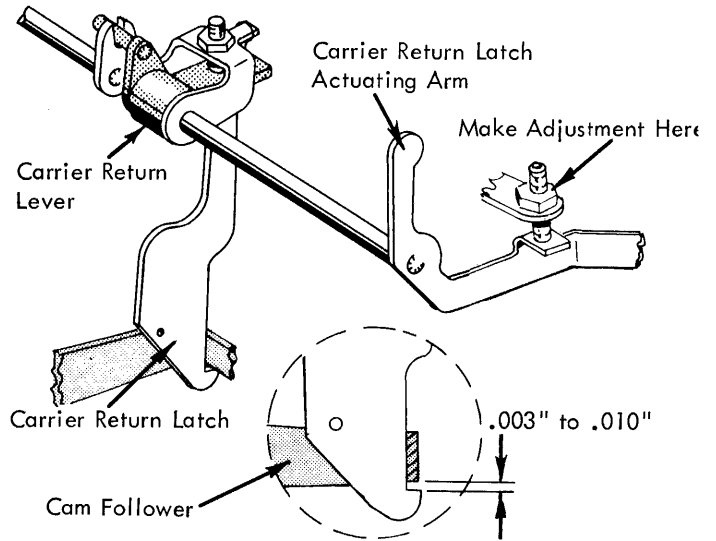

FIGURE 207. Carrier Return Latch Height (15 Inch Machine)
- c. Carrier Return Latch Actuating Arm Adjusting Screw (latch height) - With the carrier return cam latched in the rest position, adjust the screw so that the carrier return latch will pass under the cam follower by .003" to .010" (Fig. 207). Maintain a clearance between carrier return latch arm and torque bar.